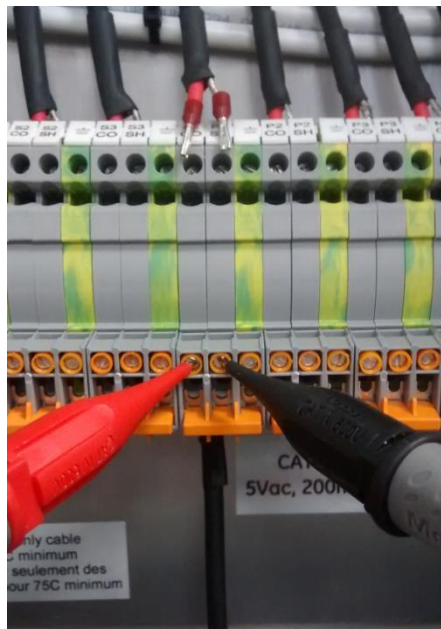

Figure D-15: R1 resistance measurement
26. For each Bushing Adaptor, measure the resistance between the coaxial cable core and the shield as shown in Figure D-15. Record this measurement as $[R1]$ in the Results table. It should be less than 3000 Ω and within 5% of the Bushing Adaptor nominal resistance in **Calibration > Bushing Adaptor > Input Impedance**. Refer to the Intellix™ BMT 330 Service Manual.
29. Retest the resistance across the two screws of the connector as shown in Figure D-15 for each Bushing Adaptor. Record this measurement as $[R3]$ in the Results table.